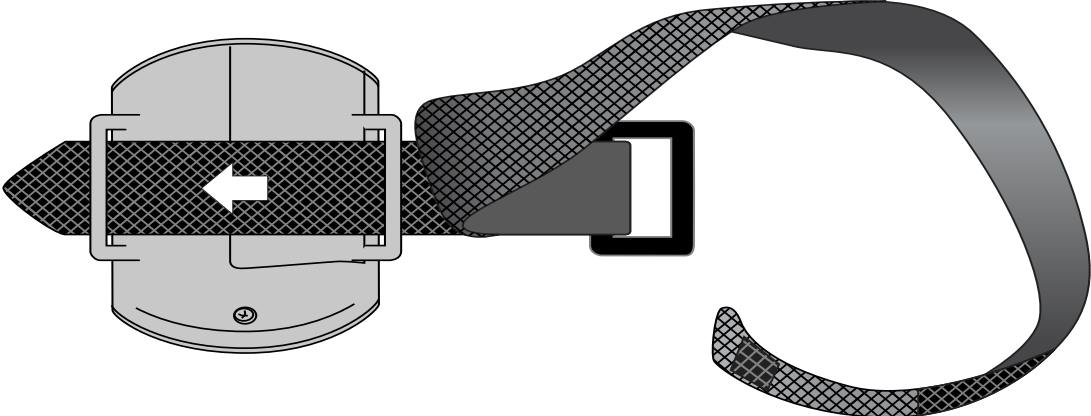
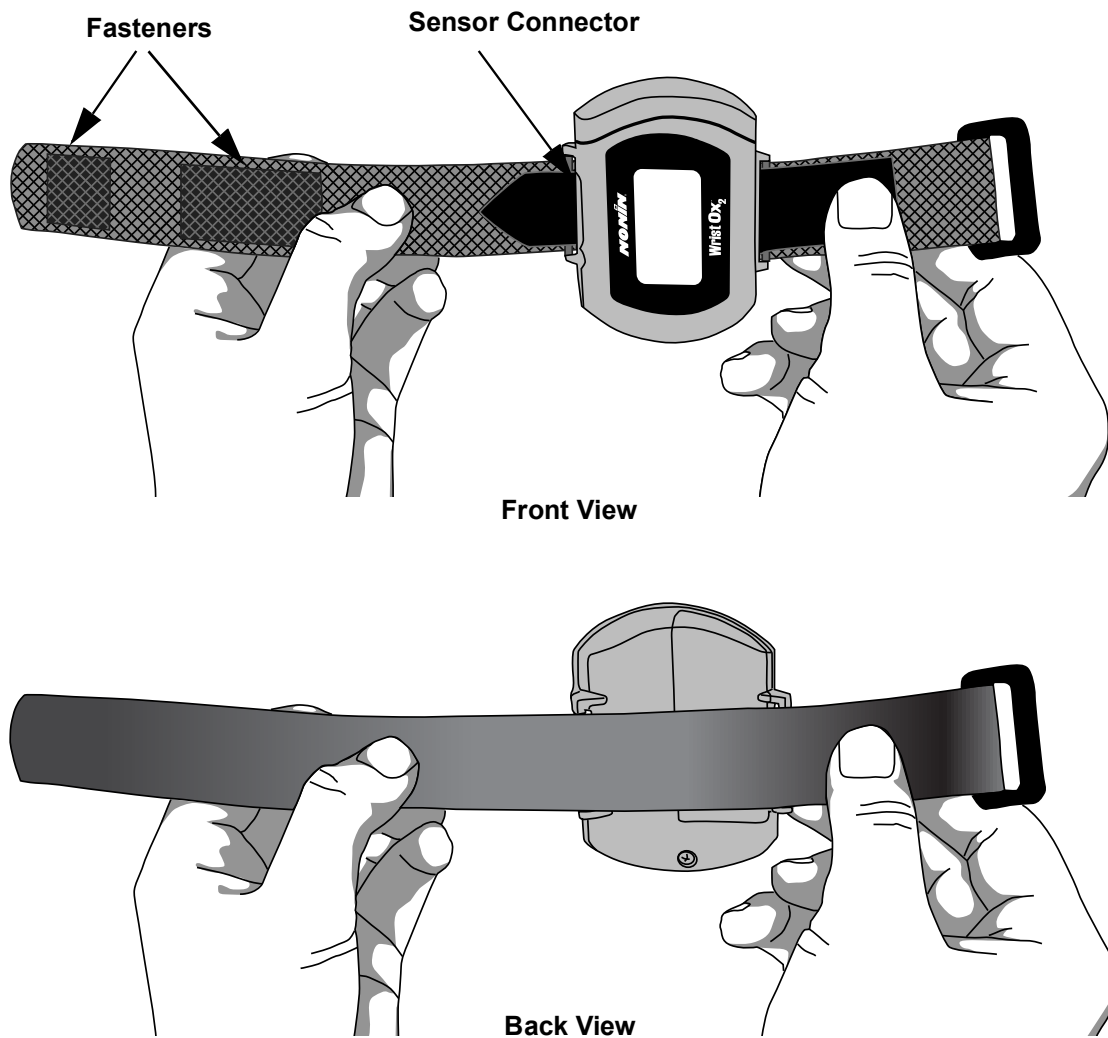

Figure 7: Thread Short Segment
Figure 9: Device with Multiple Use Wristband Attached (Front and Back Views)
Figures 7 and 8 demonstrate how to attach the multiple use wristband to the device. Figure 9 shows front and back views of the attached wristband.
1. Verify the wristband has been attached properly to the device (figure 9 & 11). If the wristband has not been attached to the device, see "Attaching the Wristband."